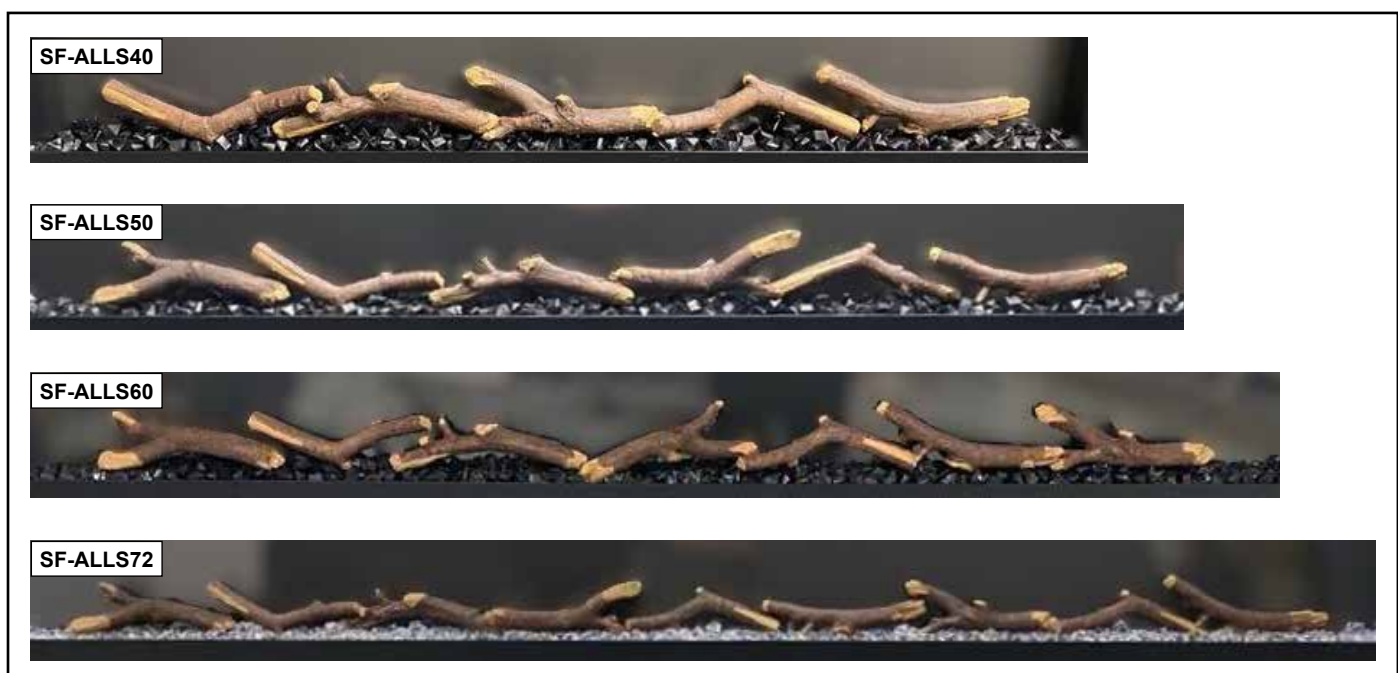

Figure 4.11 Crystal and Logs Installed
3. If optional logs are to be installed, arrange the logs on top of the crystal media as desired. See Figure 4.11.